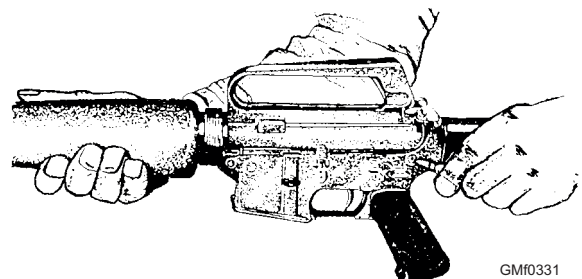

Figure 3-31.—Pressing the takedown pin to the right.
2. Keeping the muzzle to the left, turn the weapon on its right side. Use a punch or the end of a cleaning rod (nose of cartridge used only as a last resort in the field) to press the takedown pin (fig. 3-31) until the